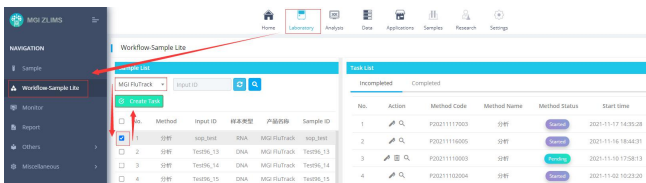

Figure 3-27 Create analysis tasks
- 1) Click [Laboratory]-[Workflow-Sample Lite], select [MGI FluTrack] as the product to be used for analysis, check the samples to be analyzed, click the [Create Task] button (Figure 3-27), and there will be a pop-up page for analysis details.